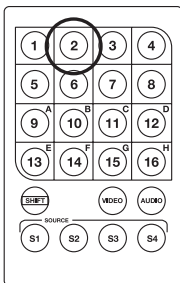

Figure 6-4. Monitor 2 button on remote control.
2. Press the desired port, for example, "2." See Figure 6-4.